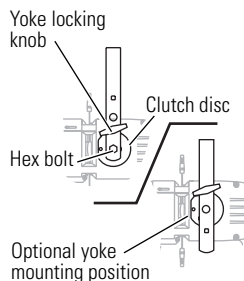

Figure 1
2. Move the luminaire to the desired position (**Figure 1**).